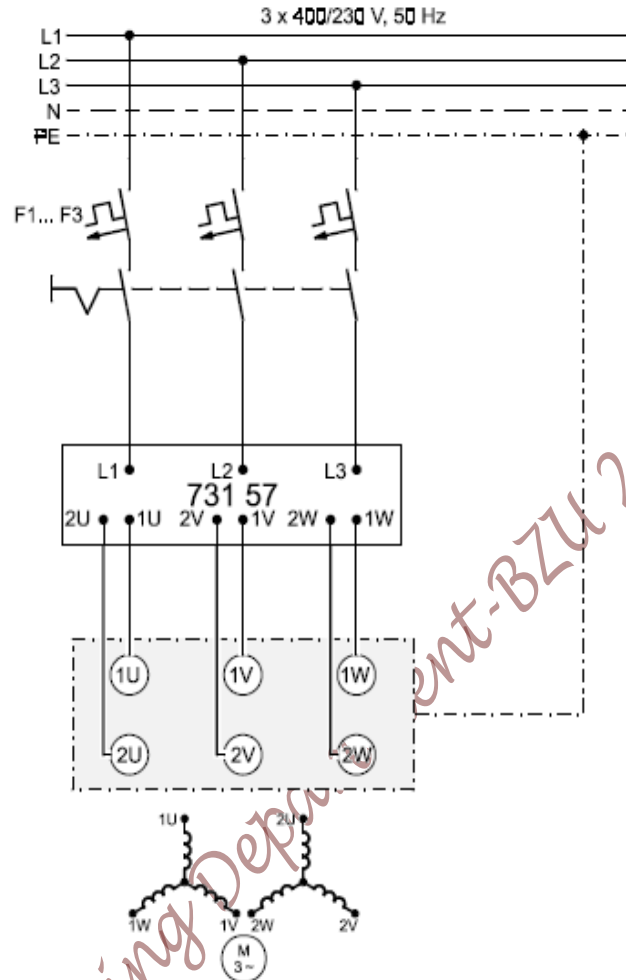

Figure 7.3 The usage of a pole-changer to change the speed of rotation
8. Change the connection to match Figure 7.3